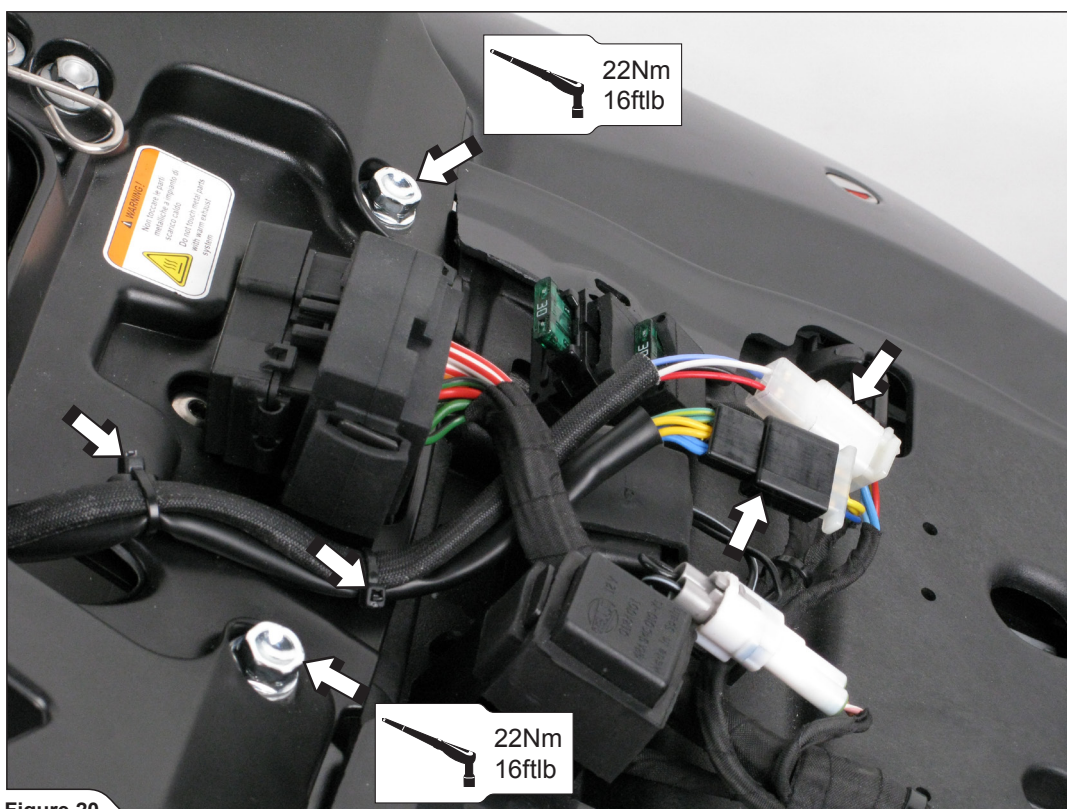

Figure 20
8. Tighten the mufflers bracket bolts to a specified torque, reconnect the electrical connectors and secure the electrical wires as shown, using plastic tie wraps (**Figure 20**).